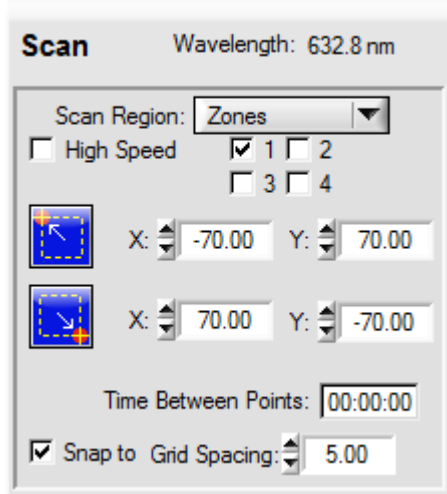

Figure 4.13 Automatic Scan Panels for Zones Scans
1. Select **Zones** from the drop-down menu under **Scan Region**. The scan control now looks like Figure 4.13 below.